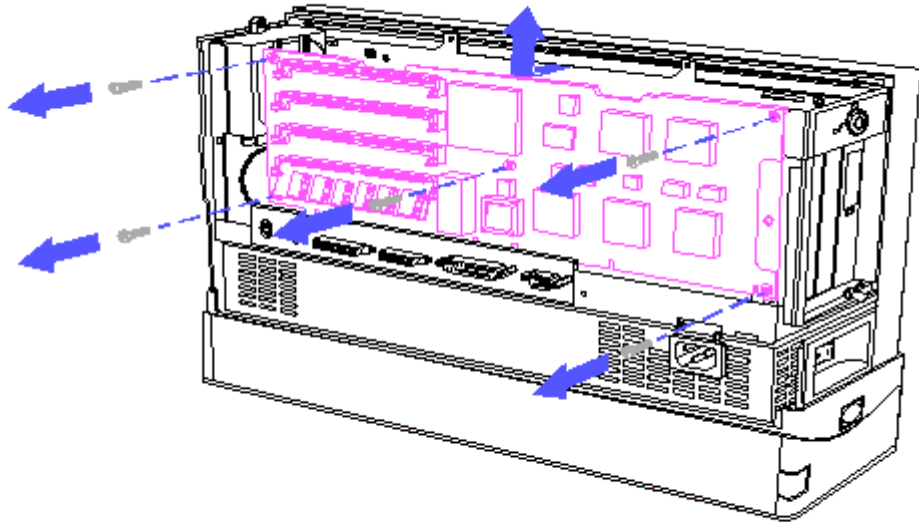

Figure 5-10. Removing the Processor Board
4. Using a Torx T-15 screwdriver, remove five screws securing the processor board to the display pan (Figure 5-10).
5. Carefully pull the processor board out of the slot (Figure 5-10).